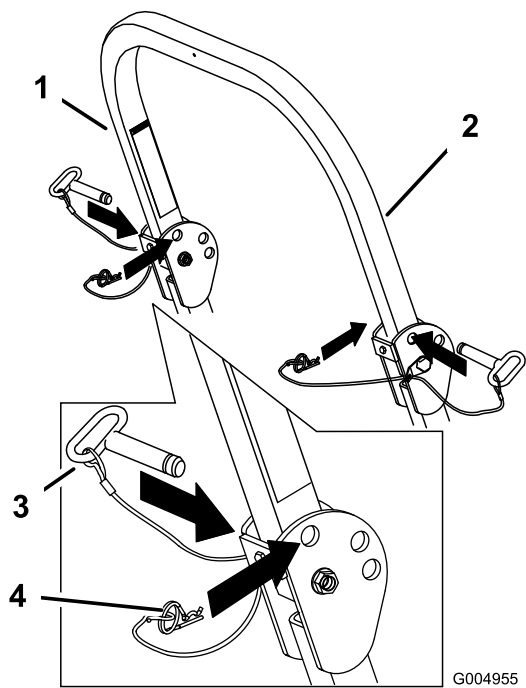

Figure 9
1. Remove the hairpin cotters and remove the 2 pins (Figure 9).
3. Install the 2 pins and secure them with the hairpin cotters (Figure 9).
4. To raise the roll bar, remove the hairpin cotters and remove the 2 pins (Figure 9).
5. Raise the roll bar to the upright position, install the 2 pins, and secure them with the hairpin cotters (Figure 9).